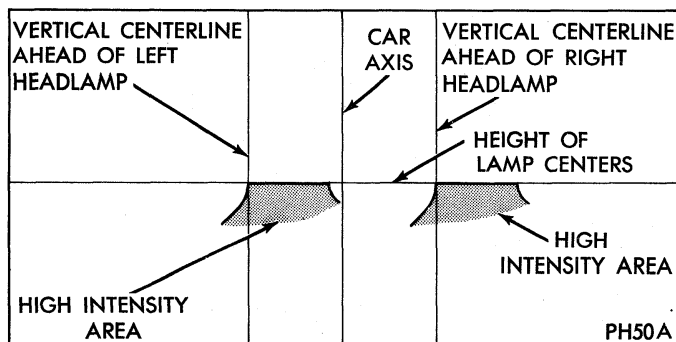

Fig. 10—Low Beam Adjust Pattern
(1) A properly aimed lower beam of 5-3/4 and 7 inch round or 4 x 6.5 inch (100 x 165 mm) rectangular (Type 2 marked "2" on lens) or 142 x 200 mm (5.6 x 7.9 inch Type 2B marked "2B" on lens) rectangular sealed beam will appear on the aiming screen 25 feet in front of the vehicle. The shaded area as shown in Figure 10 indicates high intensity zone.
(2) Adjust low beam of headlamps to match the low beam patterns of the right and left headlamps.